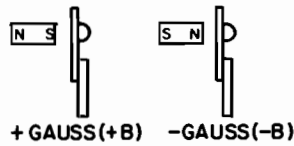

Figure 2a 91SS12-2
Figure 2a shows the straight line (dashed) used in the specifications, and the typical actual output voltage (solid line). Sensitivity (S) is expressed in mV/gauss, with the voltages at +340 and -340 gauss determining the straight line.